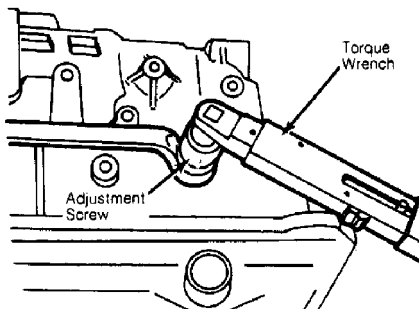

Fig. 1: Adjusting Second Brake Band
1) Adjust second brake band with transmission in a horizontal position only. Loosen adjuster screw lock nut. Tighten brake band adjustment screw to 89 INCH lbs. (10 N.m). See Fig. 1.